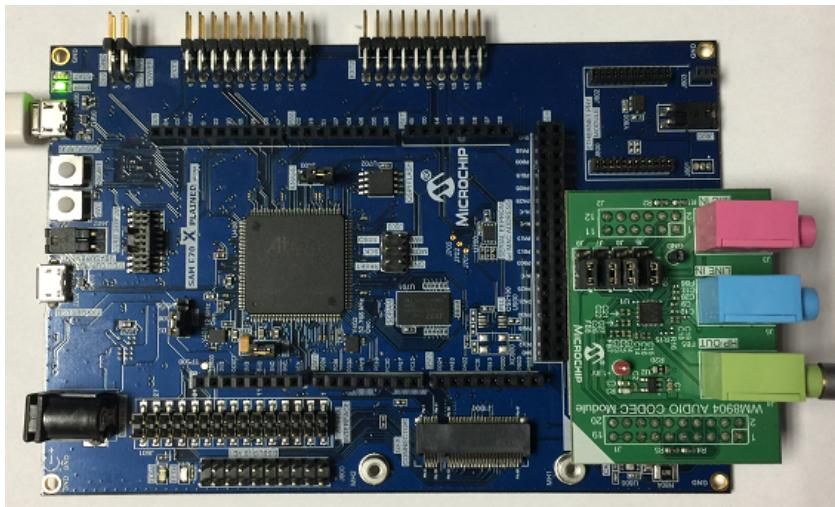

Figure 1: WM8904 Audio Codec Daughter Board on SAM E70 Xplained Ultra board
1. Connect headphones to the HP OUT jack of the WM8904 Audio Codec Daughter Board (see **Figure 1**), or the HEADPHONE jack of the SAM V71 Xplained Ultra board.